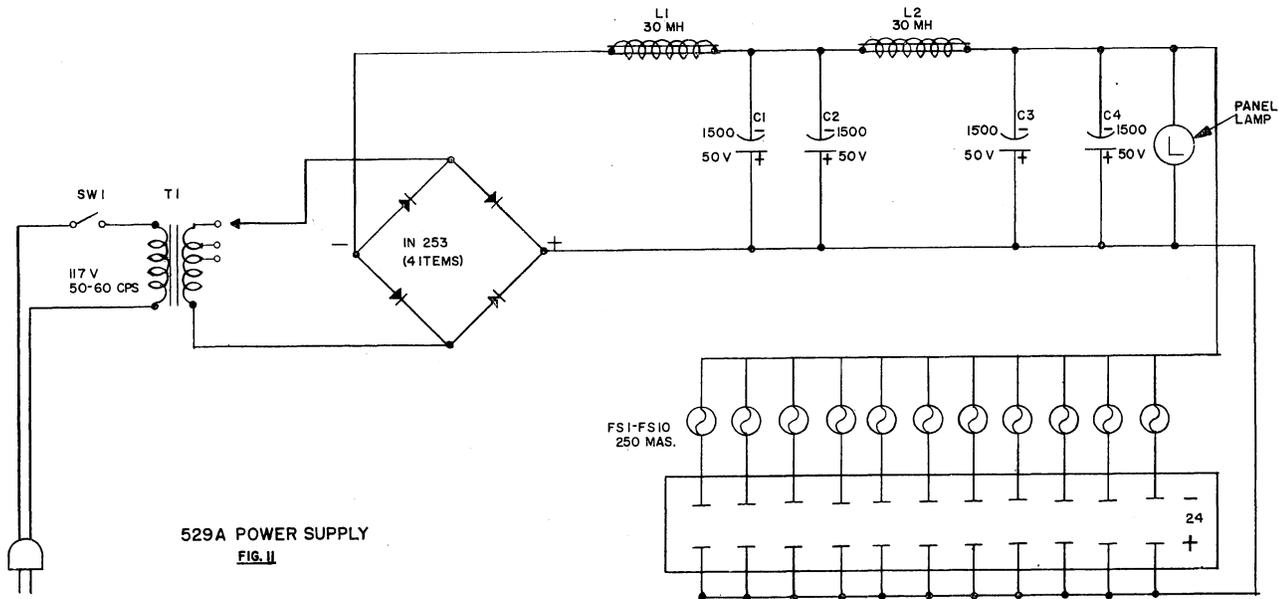

FIG. 3
3.08 Two power supply units are available. The 529A is capable of energizing up to a hundred amplifiers, while the 533A powers a single amplifier only. The 529A power supply delivers a total DC output of 2.5 amps. via ten busses, each fused at 250 ma. Figure 3 shows the circuit arrangement where the secondary of the power transformer is tapped to adjust the output voltage to 24 volts for any number of amplifiers. The rectifier is a bridge type and uses silicon rectifiers. A two-stage filter reduces the ripple to a level of a few millivolts. A distribution block is located on the rear of the panel. The front panel includes a power switch, pilot lamp ten low voltage fuseholders and a fuse designation strip. A